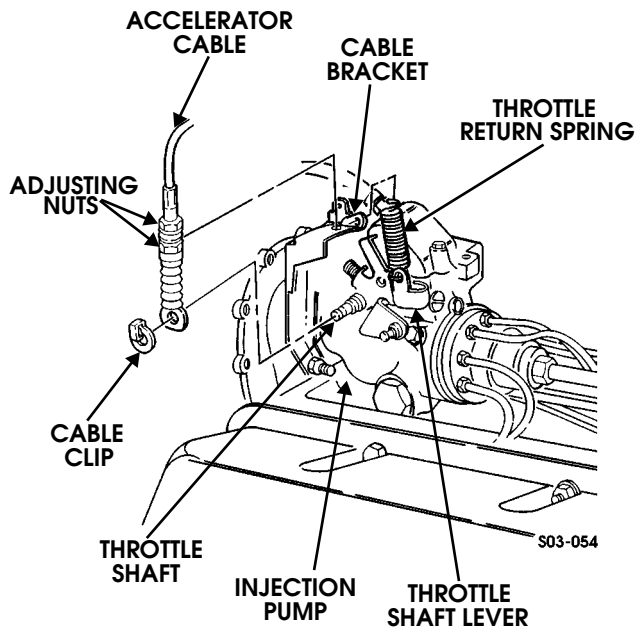

Figure 3-72: Accelerator Cable Mounting Attachment
1. Loosen cable adjusting nuts and disconnect accelerator cable from bracket (Figure 3-72).
2. Move throttle shaft lever to full throttle position. Position accelerator cable on throttle shaft and install cable clip (Figure 3-72).